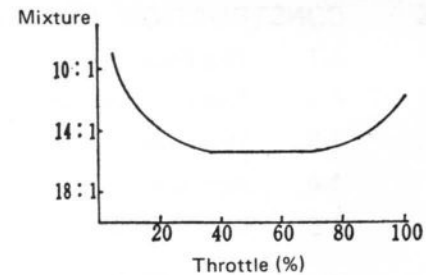

FIG. 1
- 2) To produce a proper mixture of fuel and air according to the operating conditions of the engine. The ratio of fuel to air required by the engine varies with the engine's operating conditions. While the air-fuel mixture in relation to the operating conditions depends more or less on the type and shape of the engine, a mixture ratio as shown in Fig. 1 is generally required.